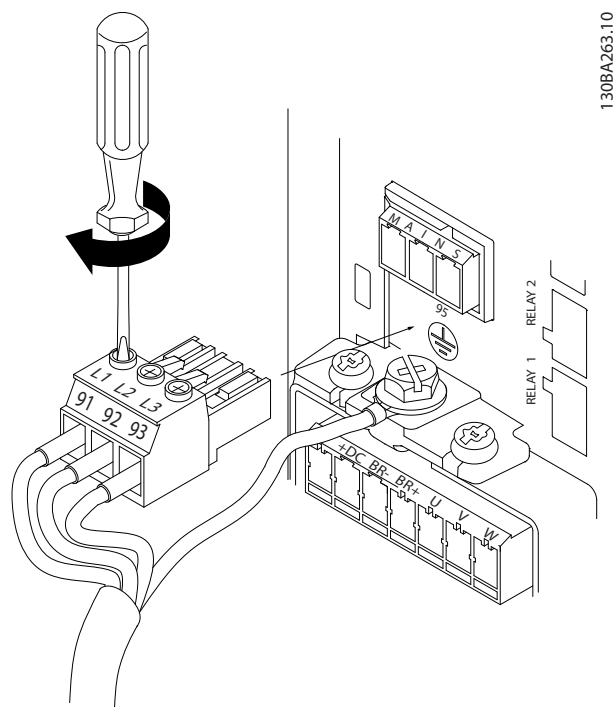

Figure 3.10 Mounting the Line Power Plug
3. Insert the line cables to the line power plug and tighten the screws, as shown in Figure 3.10.